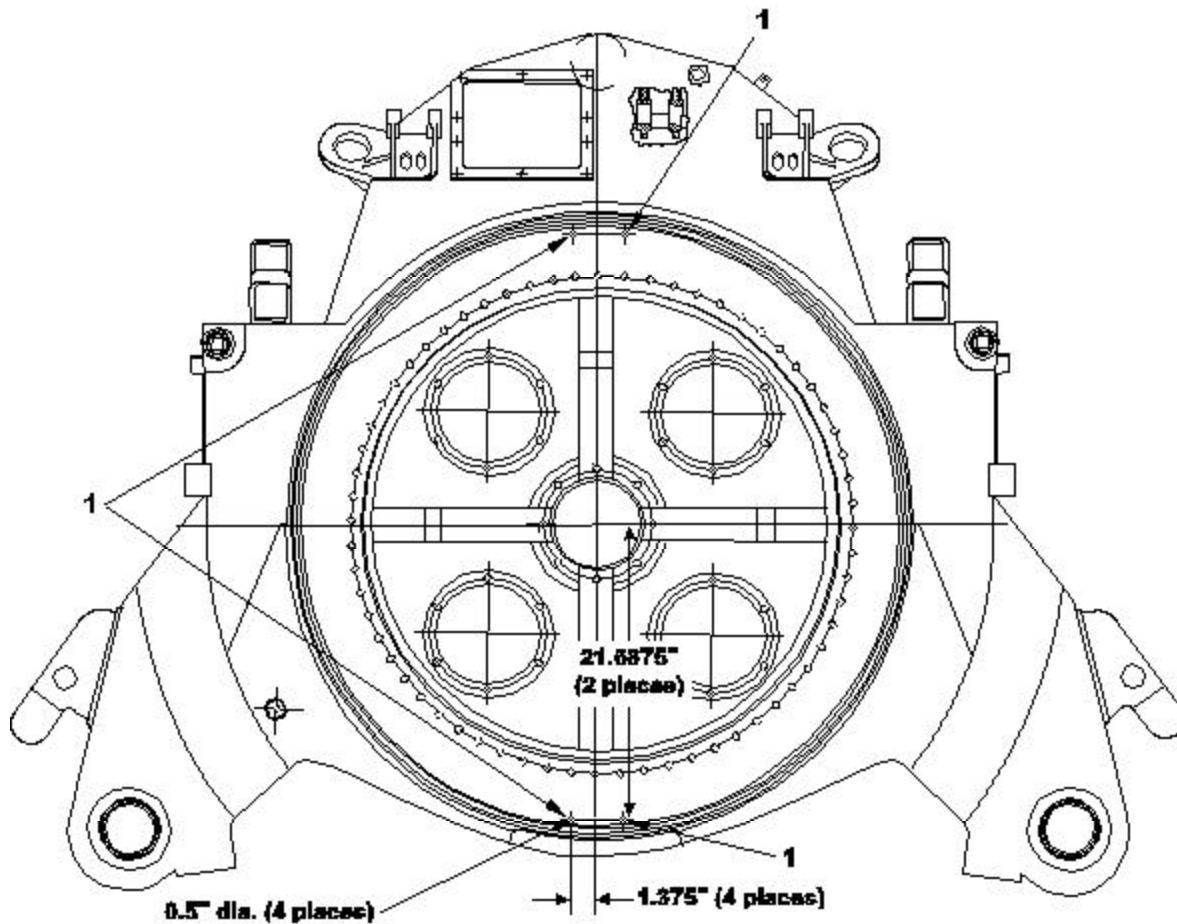

Figure 1. Locate and Mark Drain Holes.
1. Locate and mark two or four drain hole locations (1) with a center punch using dimensions in figure 1.